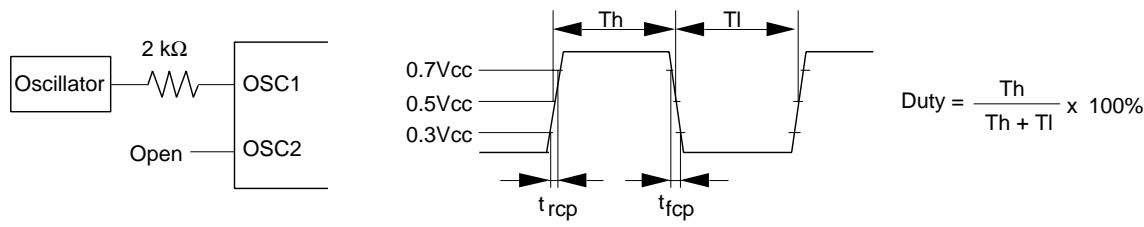

Figure 62 External Clock Supply
- 9. Applies to the external clock input (figure 62).